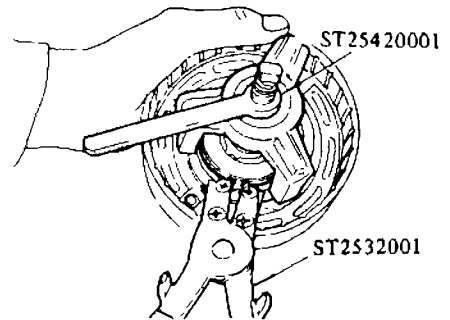

Fig. AT-86 Removing snap ring
2. Remove snap ring from coil spring retainer. See Figure AT-86.